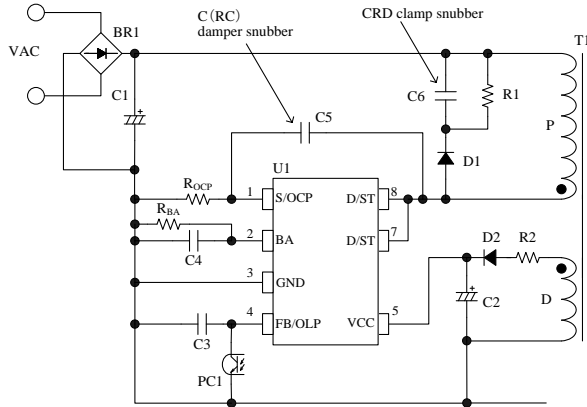

Figure 10-1. The IC Peripheral Circuit
In Figure 10-1, R_{OCP} is the resistor for the current detection. A high frequency switching current flows to R_{OCP}, and may cause poor operation if a high inductance resistor is used. Choose a low inductance and high surge-tolerant type.
- The value of C2 is generally recommended to be 10 μF to 47 μF (see Section 9.1 Startup Operation, because the startup time is determined by the value of C2). In actual power supply circuits, there are cases in which the VCC pin voltage fluctuates in proportion to the output current, I_{OUT} (see Figure 10-1), and the Overvoltage Protection (OVP) on the VCC pin may be activated. This happens because C2 is charged to a peak voltage on the auxiliary winding D, which is caused by the transient surge voltage coupled from the primary winding when the power MOSFET turns off. For alleviating C2 peak charging, it is effective to add some value R2, of several tenths of ohms to several ohms, in series with D2 (see Figure 10-1). The optimal value of R2 should be determined using a transformer matching what will be used in the actual application, because the variation of the auxiliary winding voltage is affected by the transformer structural design.
In case the surge voltage of V_{DS} is large, the circuit should be added as follows (see Figure 10-1);